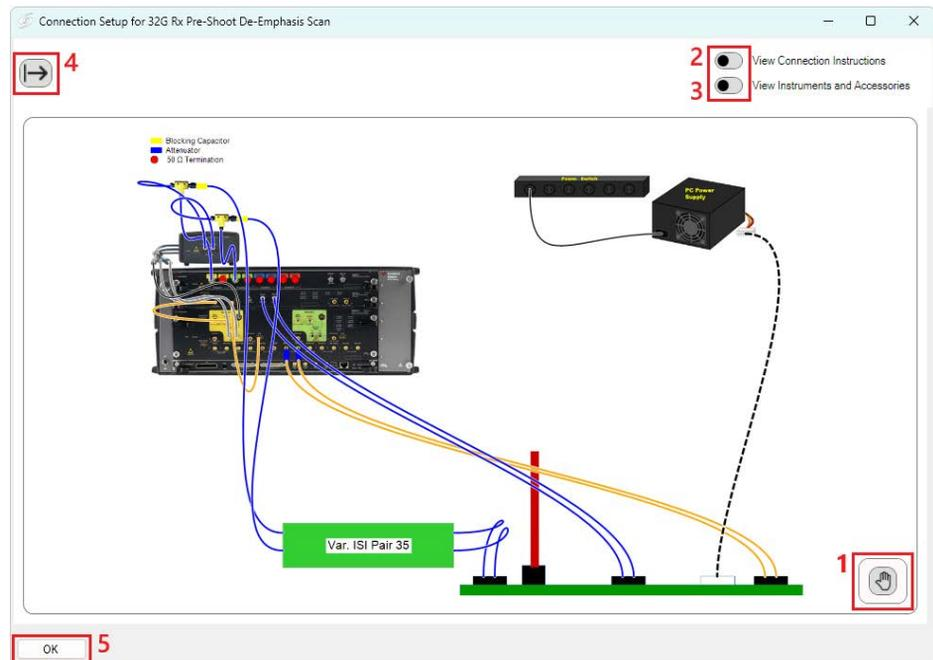
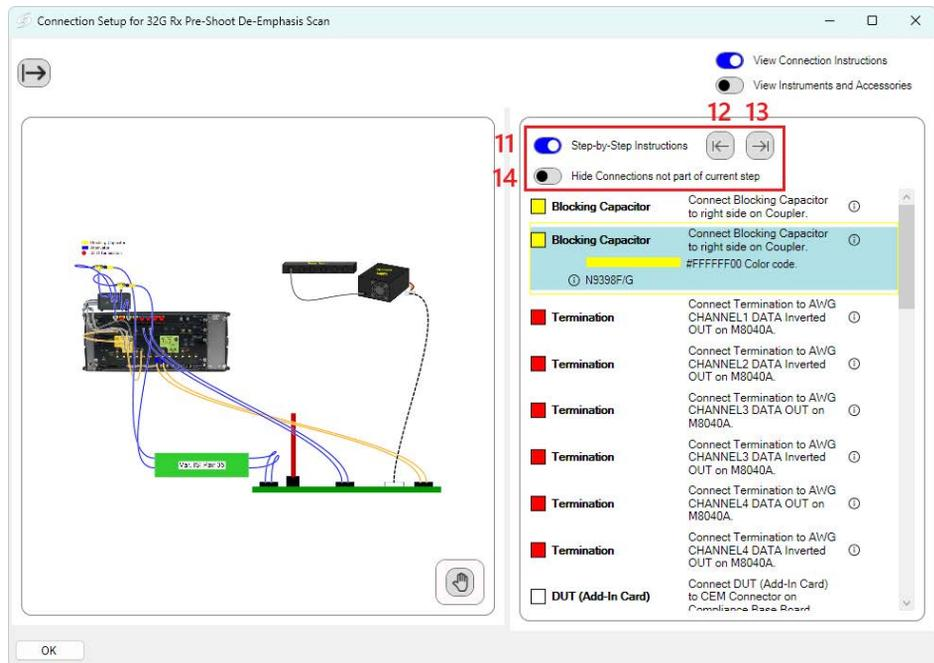

Figure 5-15 Example connection diagram dialog – default view
Figure 5-17 Example connection diagram dialog – with Connection Instructions pane
The default view consists of a connection diagram surrounded by five buttons, which are outlined in red and numbered in Figure 5-15. (For some standards the default view consists of two panes, see Figure 5-17, but nothing else changes.) The function of the buttons is explained in more detail in the following.
- 2 **Connection Instructions:** Toggle to 'on' to view connection instructions and further information (Figure 5-17).
Toggling “Step-by-Step Instructions” within the Connection Instructions pane leads to a view such as in Figure 5-17. That view helps avoid any connections being overlooked, as each step is highlighted, in sequence.